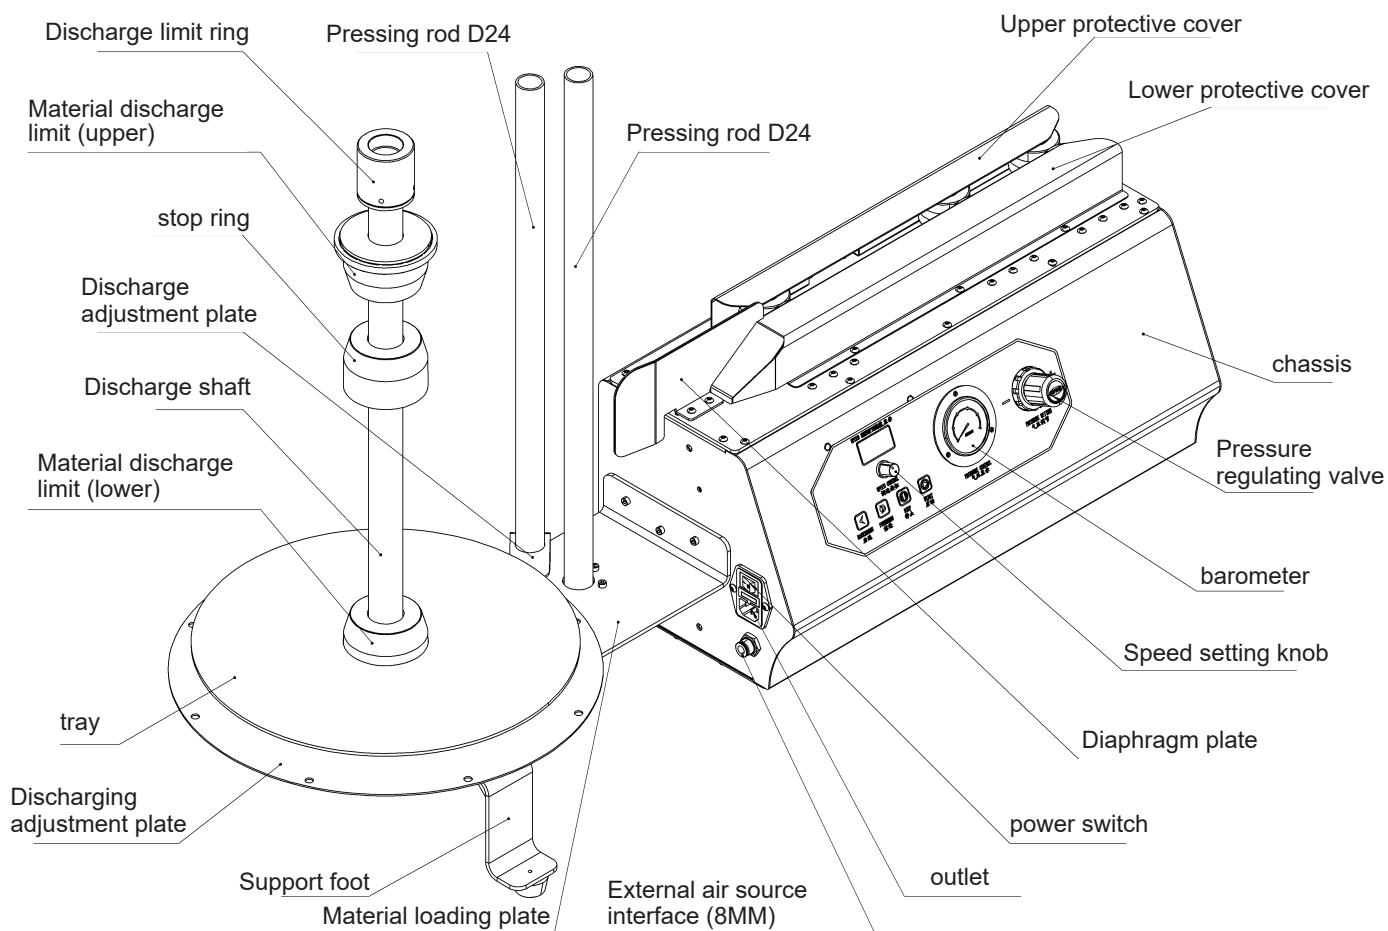

Figure 1 (Full view of the machine)
1. After installing the discharge shaft, pressure rod, membrane plate, and discharge tray according to the position shown in Figure 1 (auxiliary work: hexagonal), connect the discharge load-bearing plate to the host, and connect the air compressor air pipe to the external air source interface;